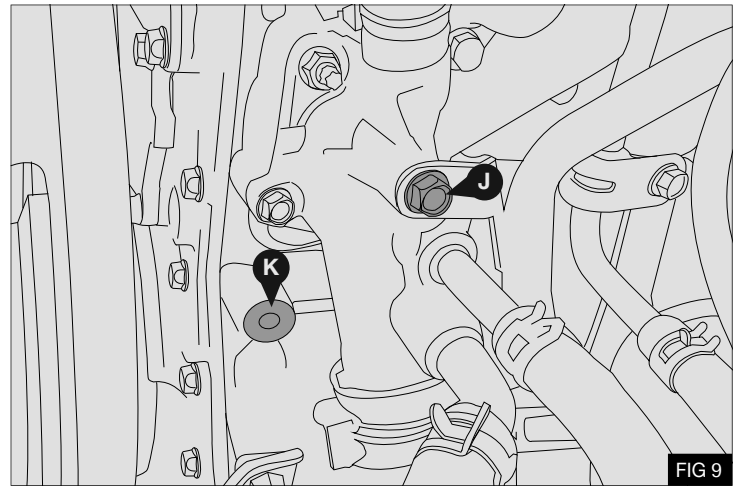

FIG 9
1. Remove and discard the M8 bolt (J) from the thermostat housing - Fig 9